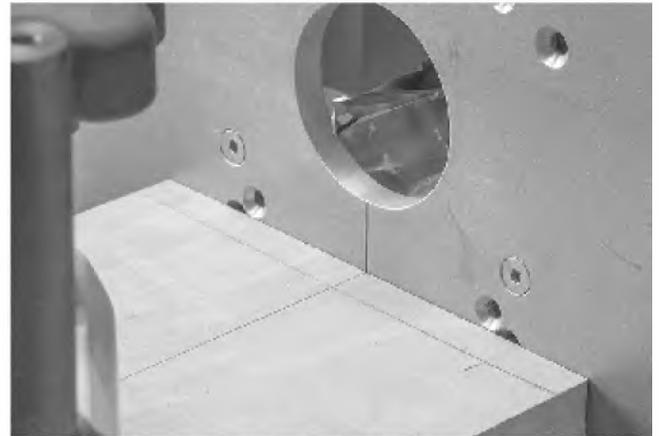

FIGURE 5. Pin board aligns to center. Adjust Template so Stylus also aligns at apex of center rib of the Template.
22. Position and clamp the pin test stock against the stop and flush and square to the Vertical Table. *FIGURE 5.*